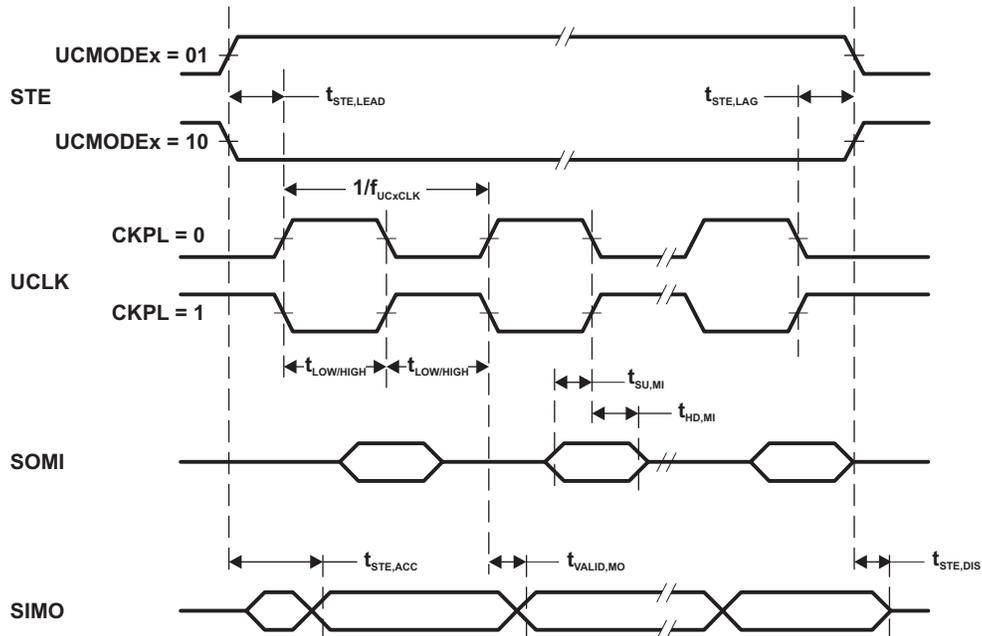
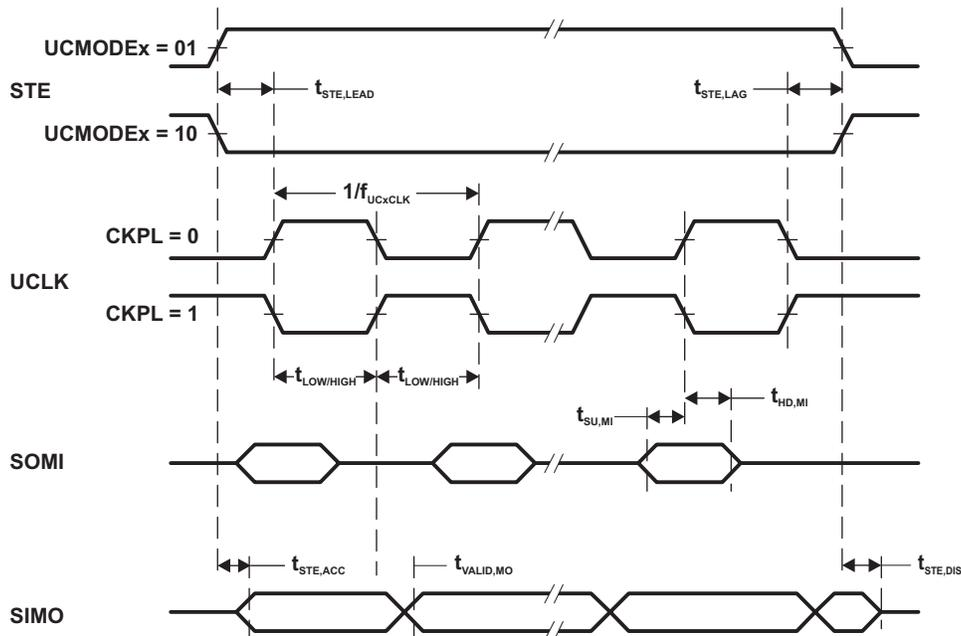

Figure 5-11. SPI Master Mode, CKPH = 0
Figure 5-12. SPI Master Mode, CKPH = 1
- (1) $f_{UCxCLK} = 1/2t_{LO/HI}$ with $t_{LO/HI} = \max(t_{VALID,MO(eUSCI)} + t_{SU,SI(Slave)}, t_{SU,MI(eUSCI)} + t_{VALID,SO(Slave)})$. For the slave's parameters $t_{SU,SI(Slave)}$ and $t_{VALID,SO(Slave)}$ see the SPI parameters of the attached slave.
- (2) Specifies the time to drive the next valid data to the SIMO output after the output changing UCLK clock edge. See the timing diagrams in Figure 5-11 and Figure 5-12.
- (3) Specifies how long data on the SIMO output is valid after the output changing UCLK clock edge. Negative values indicate that the data on the SIMO output can become invalid before the output changing clock edge observed on UCLK. See the timing diagrams in Figure 5-11 and Figure 5-12.